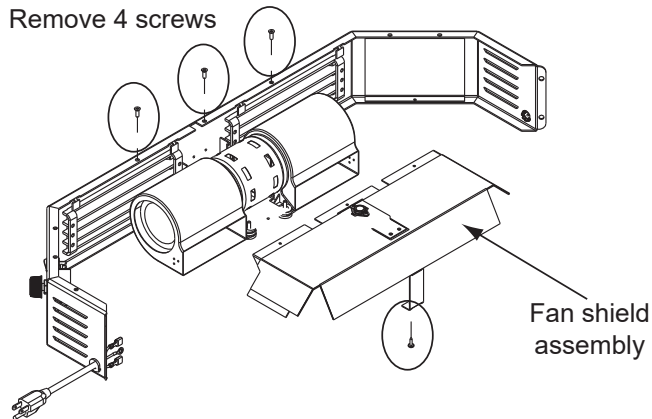

Figure 22.2
2. Remove the blower shield assembly using a Phillips head screwdriver and remove the 4 screws. Disconnect snap disc from the wire harness (**Figure 22.2**).